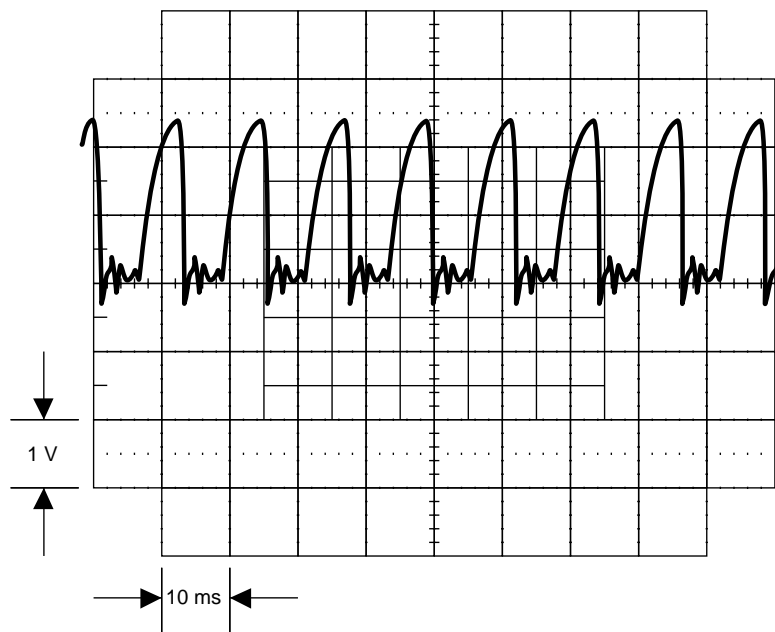

Figure 5-12. Waveform at Pin 4 of U13
2. Check the 8 MHz reference. Set the 5700A to 2V at 1 kHz, operate. Connect an oscilloscope to U13 pin 4 and verify it displays a 8 Mhz signal similar to that shown in Figure 5-12. If a failure is detected, first verify that control line HI-RES ON/OFF is a logic low by measuring U15 pin 12. If not U7 is probably at fault. If this control line is correct check U13 and its associated components.